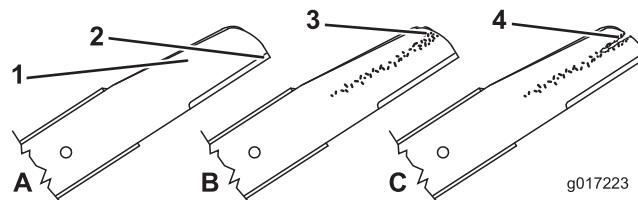
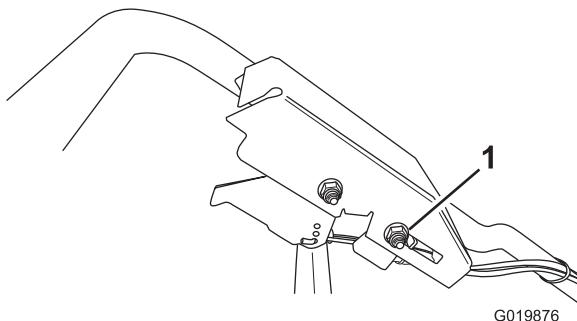

Figure 34
Figure 42
1. Inspect the cutting edges (Figure 34). If the edges are not sharp or have nicks, remove the blades and have them sharpened or replace them.
- Inspect the blades themselves, especially the curved area (Figure 42). If you notice any damage, wear, or a slot forming in this area (Figure 34), immediately replace them with new blades.
2. Loosen the cable-support nut (Figure 42).